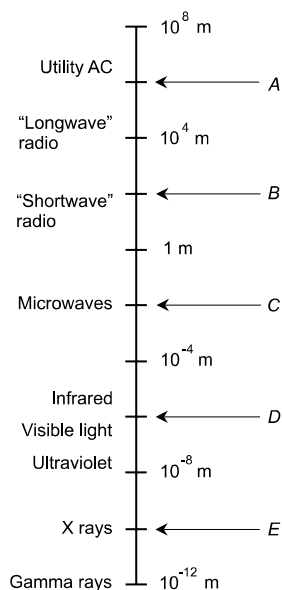

Fig. Test3-2. Illustration for Part Three Test Questions 25 and 26.
25. Figure Test3-2 is a logarithmic scale showing free-space EM field wavelengths, with the longest waves at the top and the shortest waves at the bottom. On the left-hand side of the scale, some common types of energy are listed. On the right-hand side, wavelengths in meters are shown, along with five points labeled *A* through *E*. Which point corresponds to a frequency of approximately 3 MHz?
26. In Fig. Test3-2, point *A* corresponds to a frequency of approximately